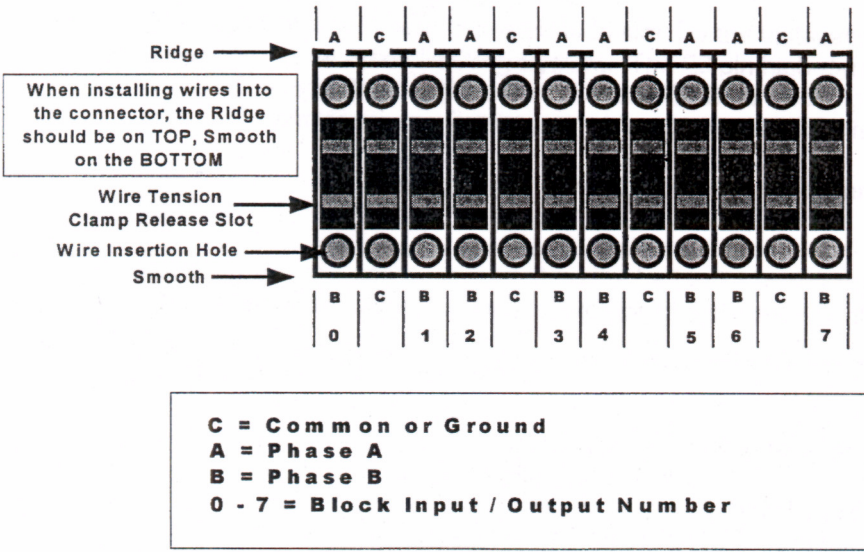

FIGURE C-2. Tension Clamp Connector (viewed from the back)
3. Unpack the Field Wiring Kit and connect the required sources or destinations to each of the tension clamp connectors. Refer to Figure C-2, on the following page for wiring each tension clamp connector.